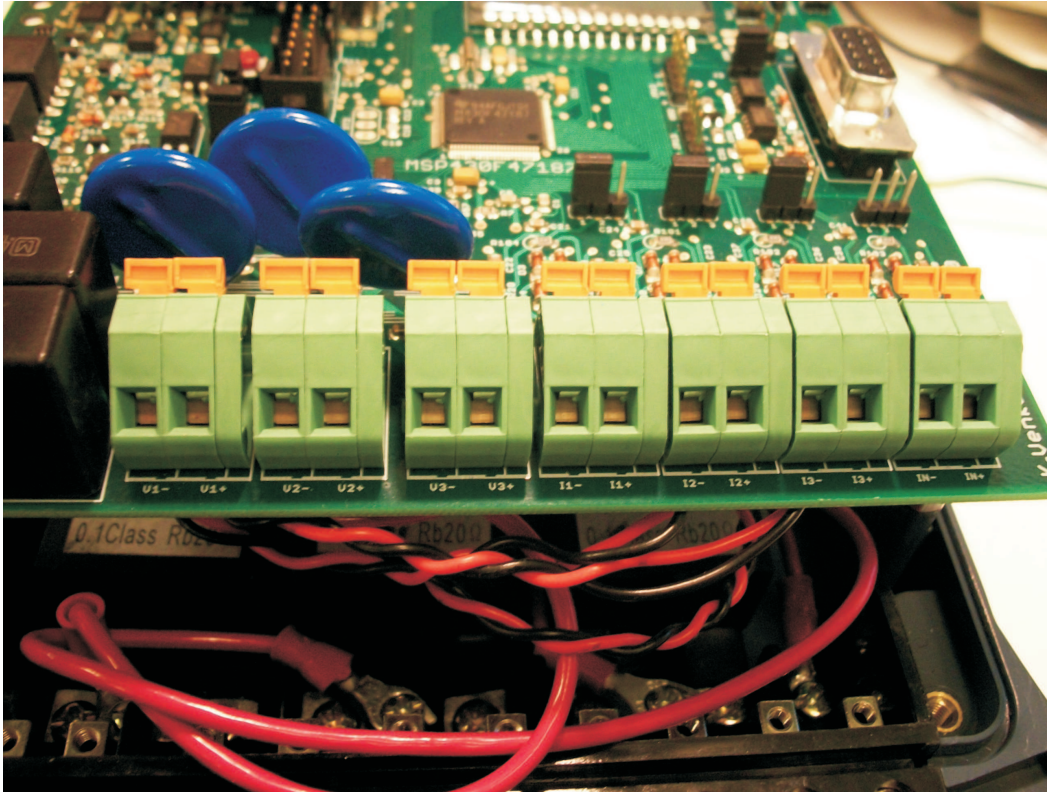

Figure 9. Connectors for Voltage and Current
- (a) Check the resistances between the positive and negative points for each phase; for example, between V1+ and V1-, V2+ and V2-, and V3+ and V3-. A multimeter can be used across the green connector pairs as shown in Figure 9.